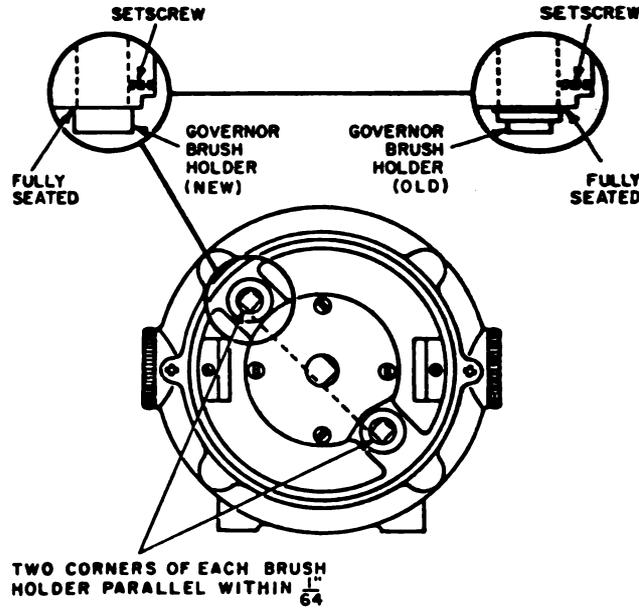

Figure 3-226. Motor-governor brush holder adjustment.
3-263. Motor-Governor Brush Holder Adjustment (fig. 3-226)
- (1) The governor brush holders should be fully seated.
- (2) Two side surfaces of the square hold in each governor brush holder should be aligned (within 1/64 inch) with the same surfaces of the other brush holder (fig. 3-226).